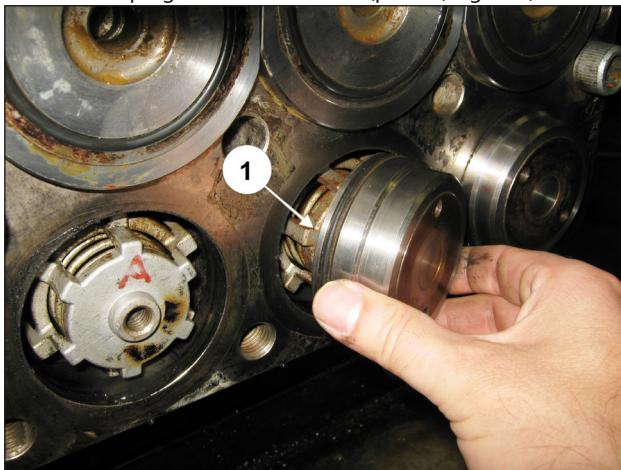

Fig. 139
Fit the valve plugs into the manifold (pos. ①, Fig. 139).